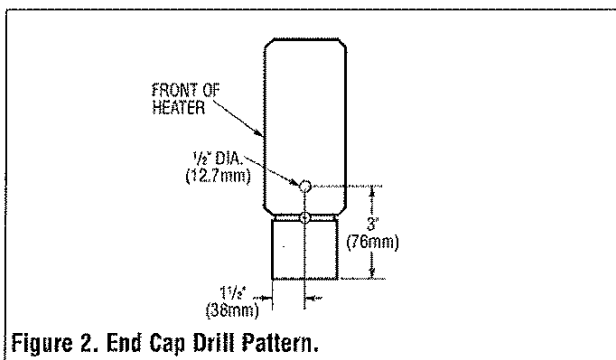

Figure 2. End Cap Drill Pattern.
5. WHEN DRILLING HOLE IN END CAPS FOR INSTALLATION ADJACENT TO END OF HEATER, ALWAYS REMOVE END CAPS FROM HEATER AND ACCESSORY SECTION TO DRILL. SEE FIGURE 2 (PAGE 2) FOR LOCATION.
4. When accessory section is installed adjacent to a heater, the connecting wiring may be routed from heater to accessory section by drilling a 1/2 inch (12.7mm) dia. hole in plastic end caps. See Figure 2 for suggested drilling location and Warning 5.